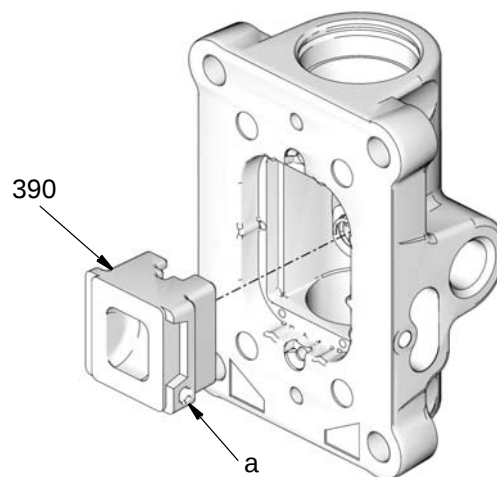

Fig. 7
1. Lubricate detent cam (391) and install into housing.
2. Lubricate the u-cups (382) and install on the piston (386) with lips facing toward the center of the piston.
3. Lubricate both ends of the piston (386) and install it in the housing.
4. Lubricate and install the detent assembly (387) into the piston (386).
5. Lubricate new o-rings (381) and install on the end caps (384). Install the end caps into the housing.
6. Install a snap ring (385) on each end to hold end caps in place.
7. Install the spring (389). Lubricate and install the air valve cup (390). Align the small round magnet (a) (Fig. 7) with the air inlet.